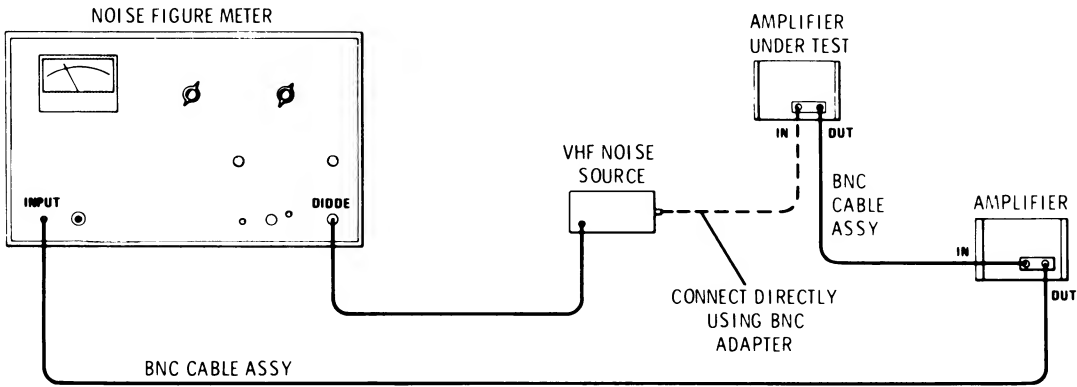

Figure 8. Noise Figure Test Setup: 100 MHz
1. Connect the equipment as shown in Figure 8. Calibrate the noise figure meter. Check the amplifier's noise figure at 100 MHz (or 105 MHz); it should be less than 8.5 dB: